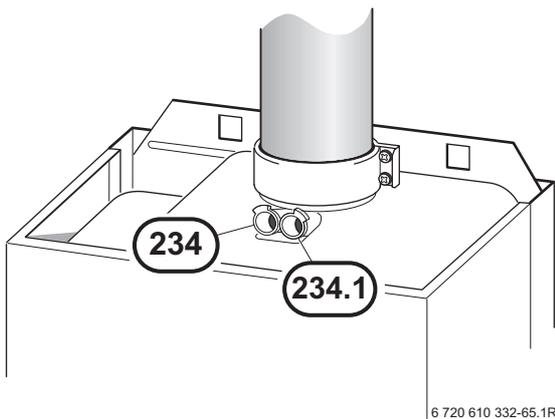

Fig. 42
- ▶ Remove sealing plug from combustion air testing point (234.1, Fig. 42).
- ▶ Remove sealing plug from flue gas testing point (234, Fig. 42).